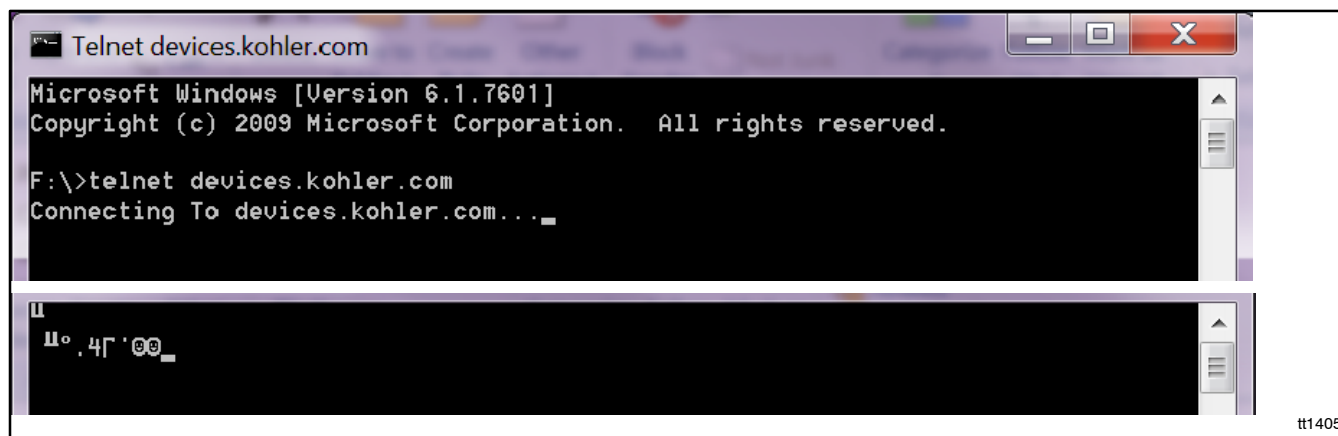

Figure 3-4 Telnet Command to Confirm OnCue® Plus Server Connection
3. If the connection was successfully established, you will see the symbols shown in Figure 3-4.